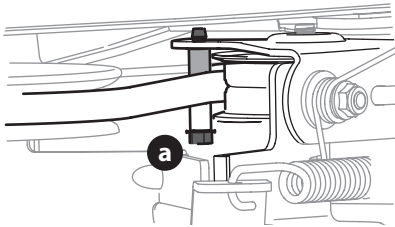

Figure 38
- Remove the belt keeper (30" decks only) by removing the hex bolt (a) that secures it (Figure 38).